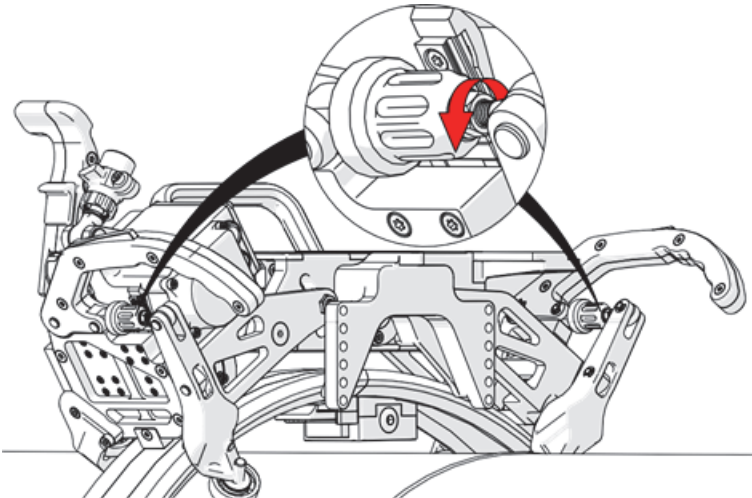

Figure 1-35 Loosening the clamp adjuster locks
5. Loosen the clamp adjuster lock on each band clamp lever (see Figure 1-35 on page 51).